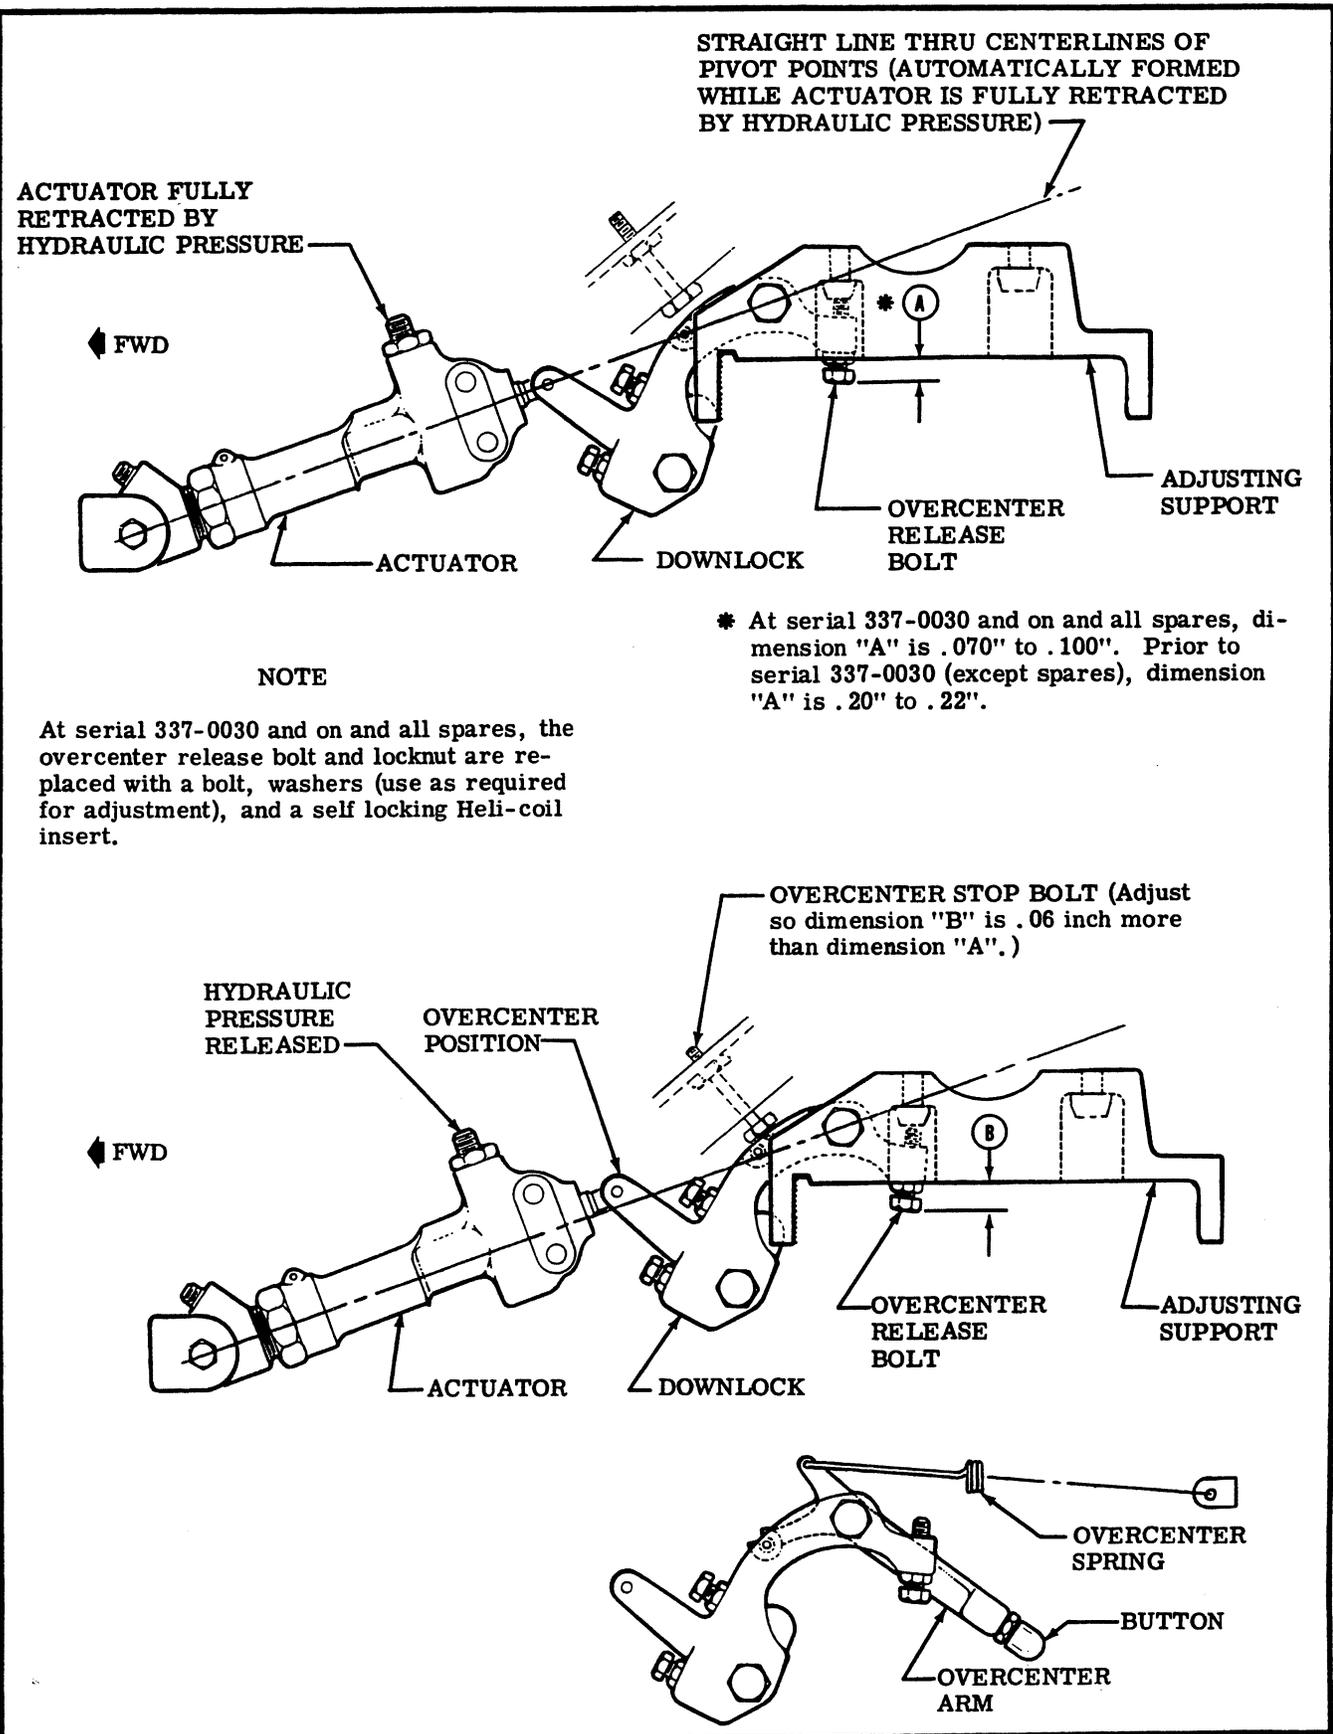

Figure 5-45. Overcenter Adjustments of Retracted Downlock
e. Check that button in overcenter arm is screwed completely in (shortened) as shown in figure 5-45, and jam nut is tight. Check that overcenter arm retracts smoothly when engaging strut and that arm is clear of roll pin installed in down lock when gear is down and locked.
f. Check that overcenter release bolt in upper end of downlock extends below adjusting support as shown, with actuator piston bottomed out retracted and hydraulic pressure applied. See figure 5-45.
g. Release hydraulic pressure and check that overcenter stop bolt in bulkhead is adjusted so that overcenter release bolt in upper end of downlock extends below adjusting support as shown in figure 5-45